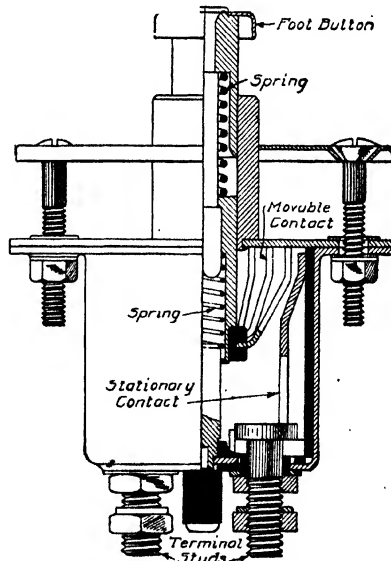

Fig. 254. Part Section of Delco Starting Switch
**Starting Switch.** A pedal-operated plunger type of switch is employed, for which the advantage is claimed that its contacts are self-cleaning. The method of effecting this will be apparent from the part-sectional view of the switch, Fig. 254. The switch is in barrel form, with the springs incorporated in the plunger, while the stationary and movable contacts are given a contour that causes them to scrape against each other when coming into contact, thus keeping these surfaces bright.